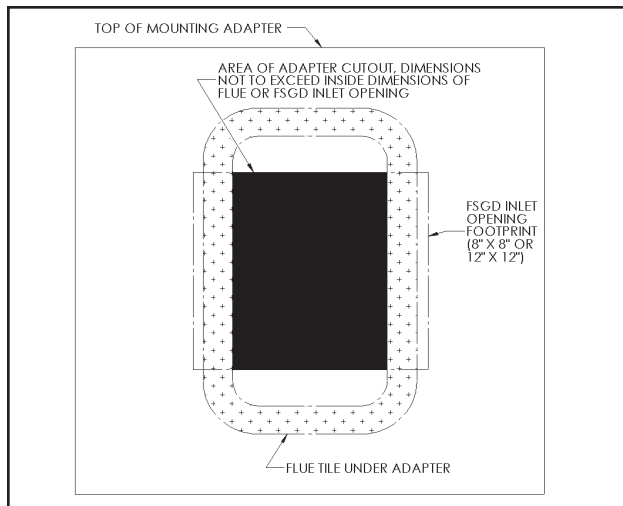

FIG 3
- b. Cut a hole in the center of the mounting adapter equal to the size of the chimney tile or equal to the inside dimensions of the Chimney Top Inducer damper section (see Figure 3). Do not make the hole larger than the damper opening.
- b. Cut a hole in the center of the mounting adapter equal to the size of the inside dimensions of the Chimney Top Inducer damper section (See Figure 3). Do not make the hole larger than the damper opening.